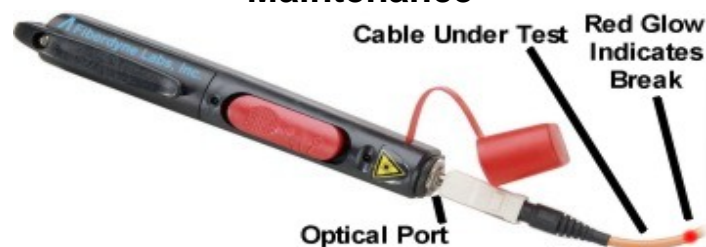

Figure 2. Fault Locate Detection
4. Visually examine the fiber components, locating the faults by a red glow (see Figure 2).